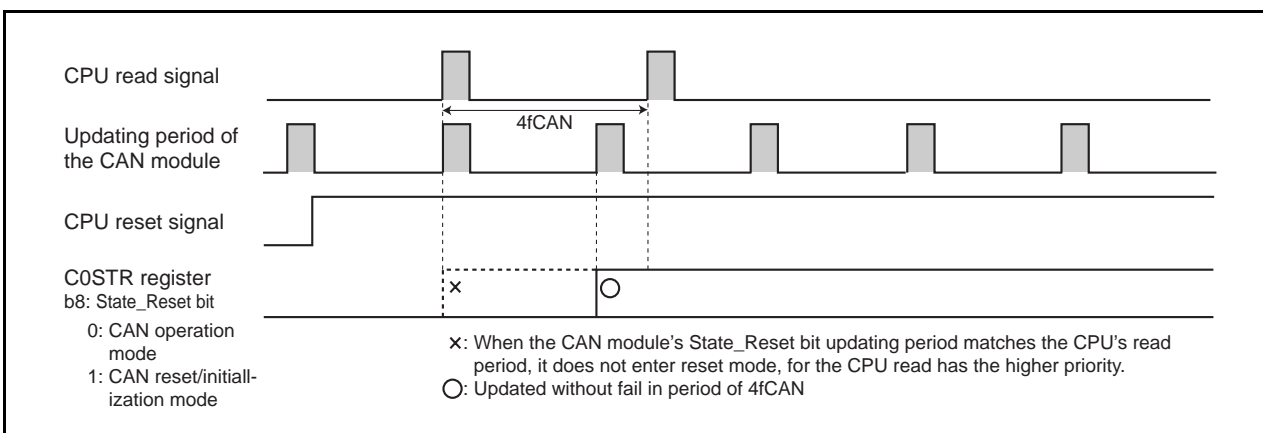

Figure 18.28 When Polling Period of CPU is 3fCAN or Longer
- When the CPU polls the C0STR register, the polling period must be $3f_{CAN}$ or longer. (See Figure 18.28)